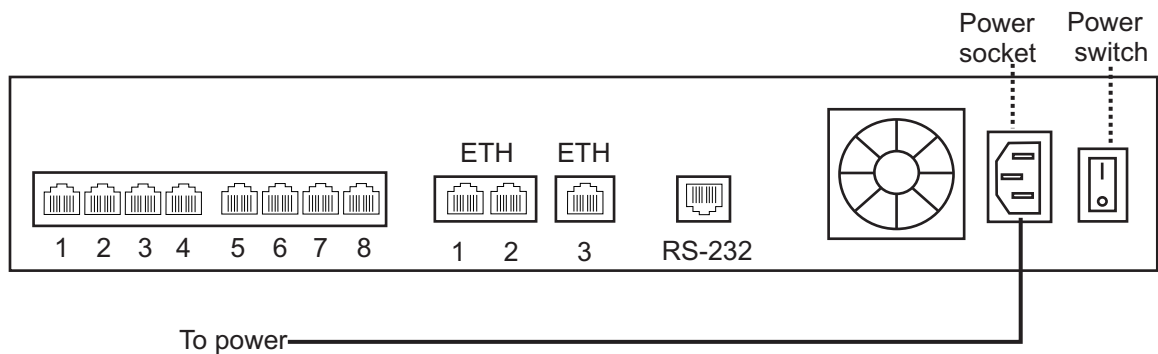

Figure 2.8 AC Power Connection
The TMP800 is furnished with one AC power connector (Figure 2.8 on page 16).
1. Connect an AC power cable between the AC connector of the Tmedia unit and an AC supply. See Figure 2.8 on page 16.